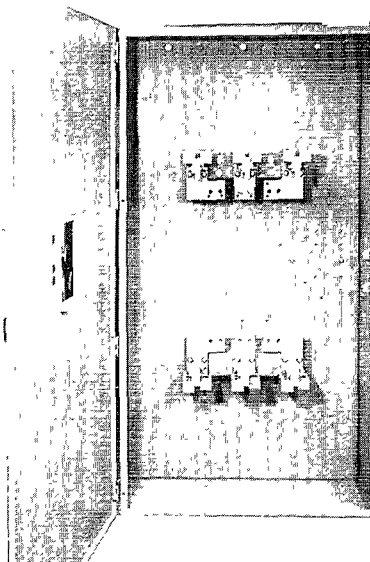

Figure 1
2. Depending on the method by which conduit openings are to be made, you may find it easier to remove the enclosure endwalls to add. First remove enclosure door by removing the hinge screws (See Fig. 1).